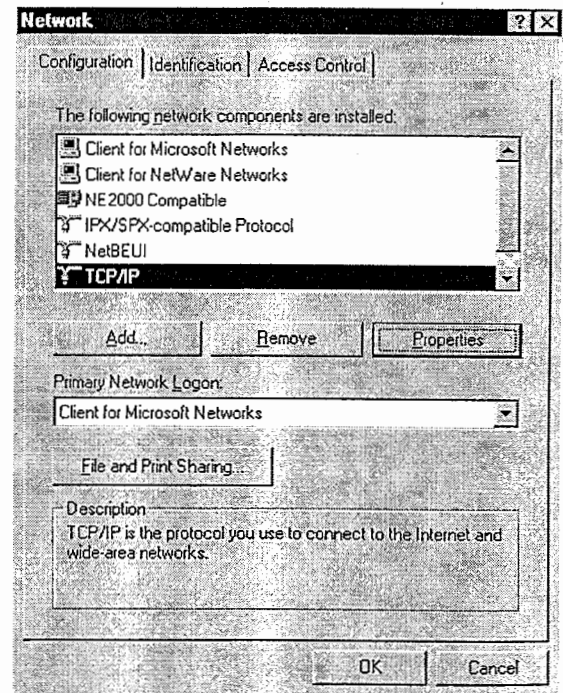

Figure 6-8. Network Window.
2. Double-click on the **Network** icon to display the Network window. See Figure 6-8.